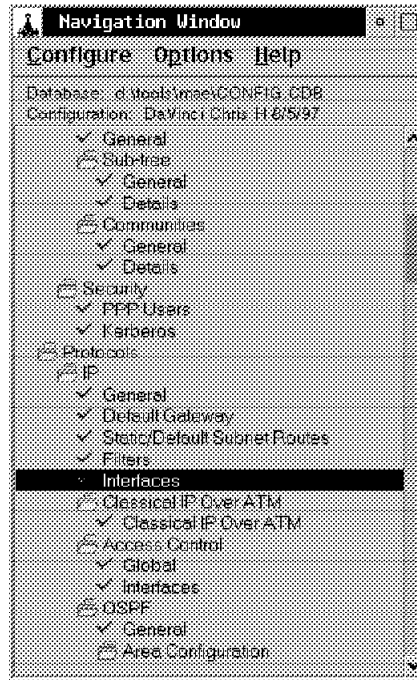

Figure 26-15. Selecting IP Interfaces in the Navigation Window
- Locate (by scrolling down) and click on **Interfaces** under the Protocols/IP folders in the Navigation Window, shown below in Figure 26-15.